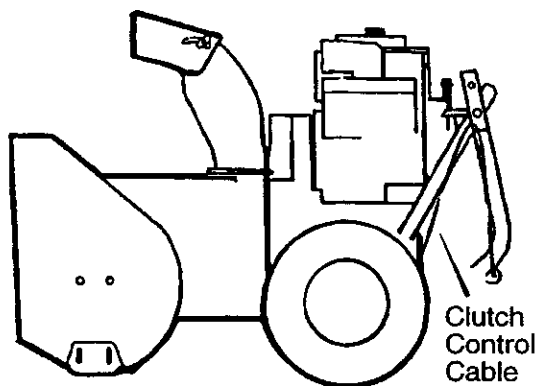

Figure 1
Figure 1 shows the snow thrower in the shipping position.
8. Cut the ties that secure the **clutch control cables** to the lower handle. See Figure 1. Move the cables away from the motor frame.